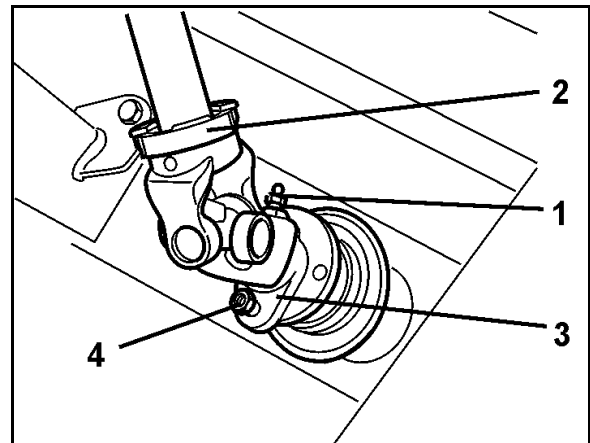

Fig. 90
2. Remove the grease nipple (Fig. 90/1) in the connection fork (Fig. 90/3) of the PTO shaft (Fig. 90/2).
3. Remove the shear bolt (Fig. 90/4) between the fork flange of the PTO shaft and the flange of the gearbox input shaft.